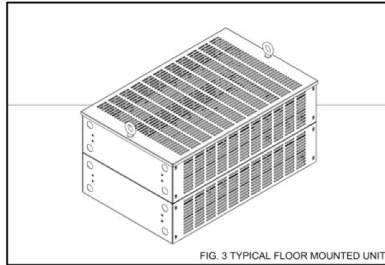

FIG. 3 TYPICAL FLOOR MOUNTED UNIT
- All larger units (above approximately 5KW) are 29" wide and must be roof or floor mounted as shown in FIGURE 3. Fasten enclosure with four 1/2" bolts.